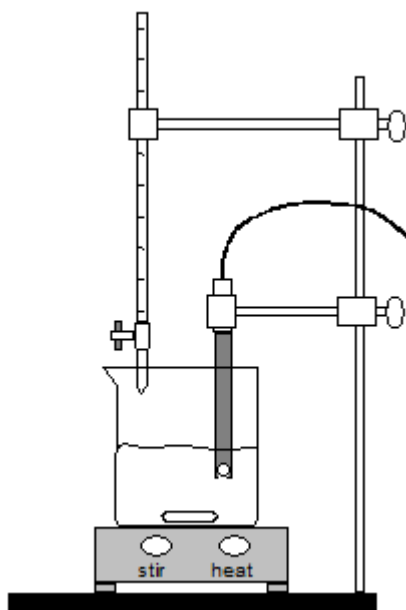

Figure 2: Experimental Setup
- 10 Carefully position the pH electrode in the 250 mL breaker until about 1/2 inch of the tip is in the solution. Clamp to the ring stand with the clamp provided. Be sure that the stir bar will not strike the pH electrode. If necessary, add more water. See Figure 2 for the complete setup.
- 11 Position the buret so that the tip of the buret is just inside the beaker. Refer to Figure 2.